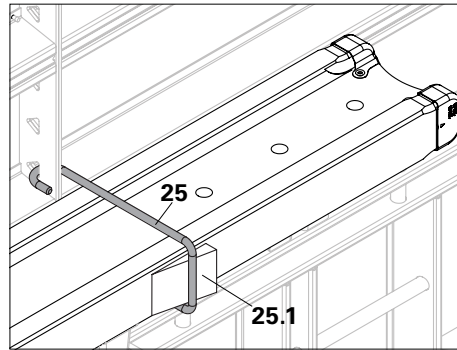

Fig. A4.13a
1. Insert the holder hook HSA (25) into the triangular slots of the panel strut.
- (Fig. A4.13a)